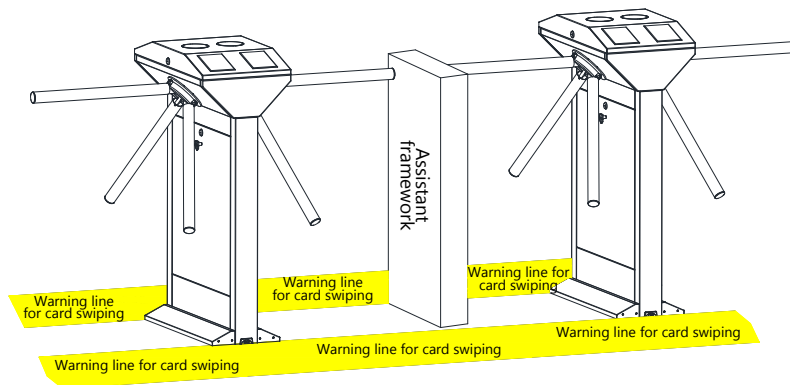

Figure 3-2
2. Setting a warning line for card swiping (see Figure 3-2). A warning line is suggested to prompt users to swipe cards in a distance, which would greatly reduce the probability of equipment failure caused by improper operations.